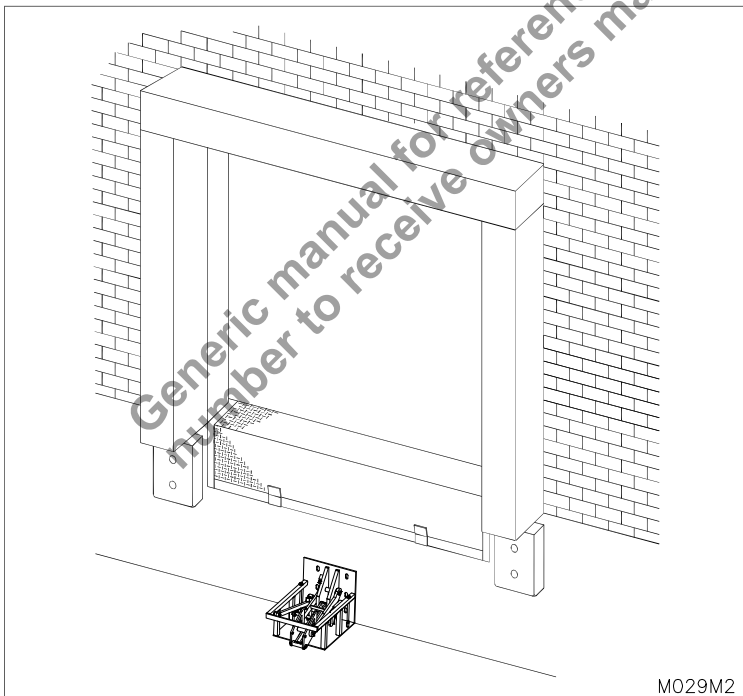

Figure 13: Restraint Stored - Dock Ready to Receive
1. Truck/trailer is to back into the loading dock only when the restraint is in the Stored position (see "Figure 13: Restraint Stored - Dock Ready to Receive" on page 17).